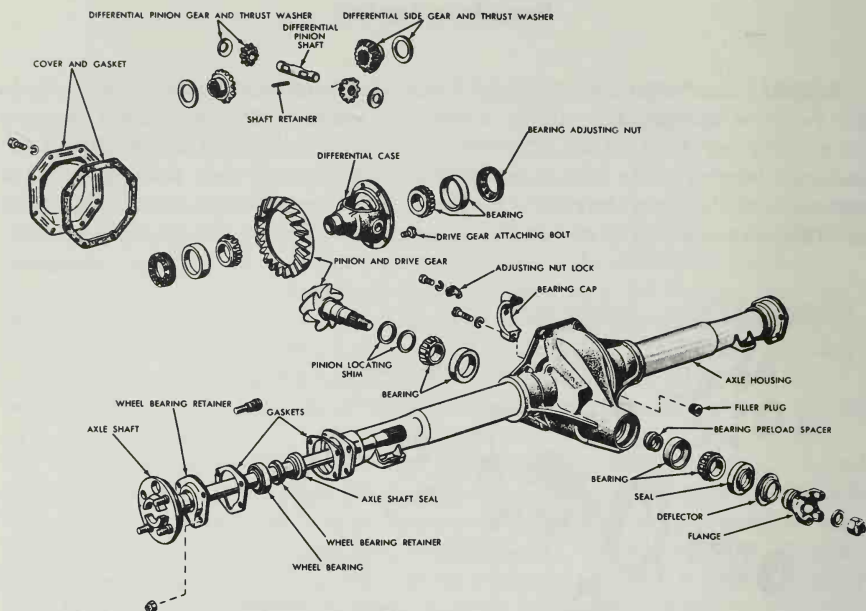

Fig. T-3. Details of integral carrier type rear axle, used on Falcon, Granada, Fairmont, Maverick and Mustang cars using six cylinder engines.
This type rear axle is illustrated in Fig. T-3 and differs primarily from the other integral carrier type axle in the method of removing the axle shafts. This type axle is used primarily on Maverick, Falcon and Mustang cars with engines of lower horsepower.
**REMOVING THE AXLE SHAFT:** The rear axle shafts, wheel bearings and oil seal can be replaced without removing the differential assembly from the axle housing. Remove the wheel cover, wheel and tire from the brake drum. Remove the Tinnerman nuts that secure the brake drum to the axle housing flange, then remove the drum from the flange. Working through the hole provided in each axle shaft flange, Fig. T-3, remove the nuts that secure the wheel bearing retainer plate. Then remove the axle shaft assembly out of the axle housing using a slide type puller. Entire length of the axle shaft must pass through the seal without contact as any roughing of the seal will cause early seal failure.
**REMOVAL OF DIFFERENTIAL CASE AND DRIVE PINION:** Raise the vehicle and support it on the underbody so that the rear axle drops down as far as the springs and shock absorbers permit. Remove the cover from the carrier casting rear face and drain the lubricant. Remove the axle shafts. Remove both oil seals. Remove the drive shaft. Remove the differential bearing adjusting nut locks, Fig. T-3. Mark one differential bearing cap and the case to help position the parts properly during